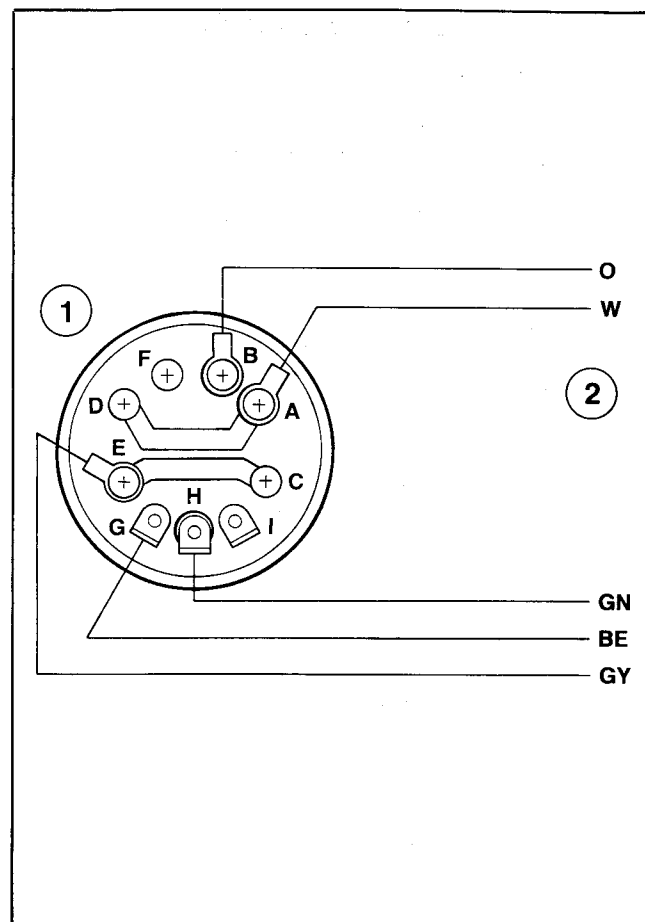

Figure 82 – Color Code For Wiring Key Switch
- b. Color codes for wiring switch are shown in Figure 82.